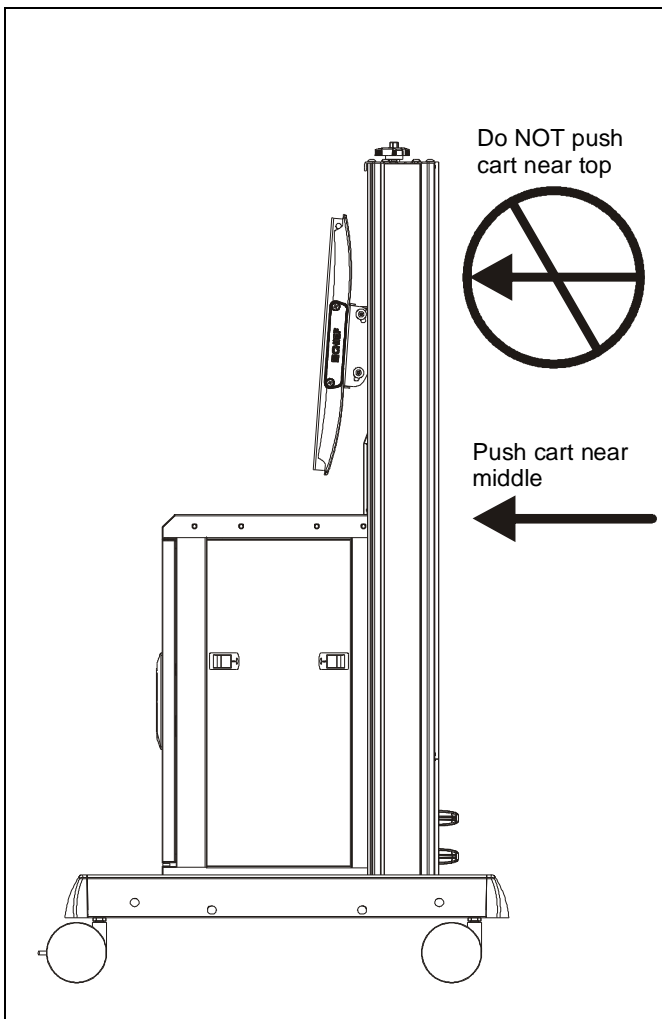

Figure 21
**⚠ WARNING: CART CAN TIP OVER RESULTING IN INJURY!** Do not allow children under 16 to move cart. Only adults should move this cart. Move cart slowly. Apply moving force on narrow dimension. Never apply force at top - always push toward the middle. Push, don't pull cart. (See Figure 21)